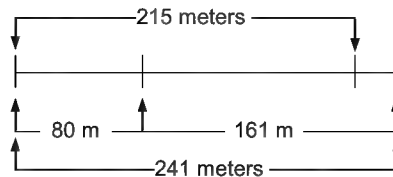

Figure 5-3. Formula for determining length of hunter-killer maneuver box.
(4) To determine the size of a maneuver box, the average vehicle speed for the course and the target exposure time must be known. Figure 5-2, page 5-10, shows how to determine the length of a maneuver box. If the first number after the decimal is 5 or more, the length is rounded up to the next whole number. Figure 5-3, page 5-11, shows how to determine the length of a hunter-killer maneuver box.